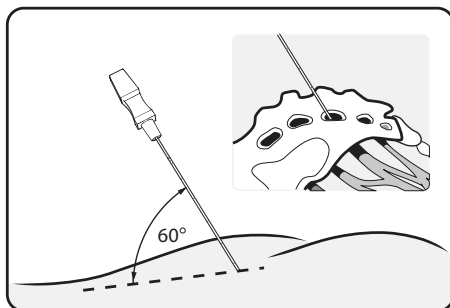

Figure 5. Insert the foramen needle at a 60-degree angle
2. Place the needle into the foramen at an approximate 60-degree angle to the bony surface. The nerve lies along the superior-medial aspect of the foramen. (**Figure 5**)